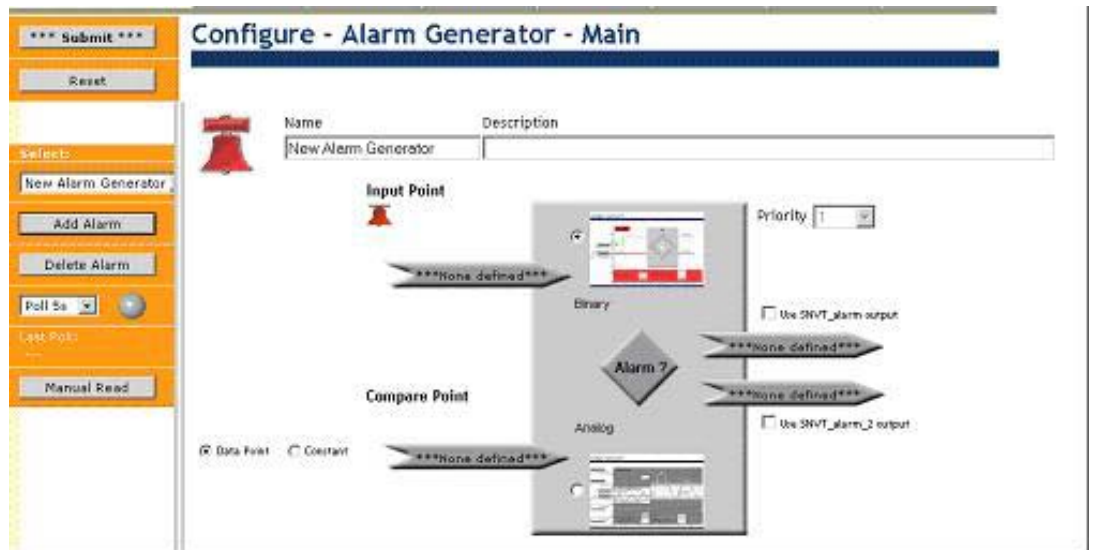

Figure 5.1 Configure - Alarm Generator - Main Web Page
3. Click **Add Alarm**. This will activate the fields and properties on the Web page, as shown in Figure 5.1.